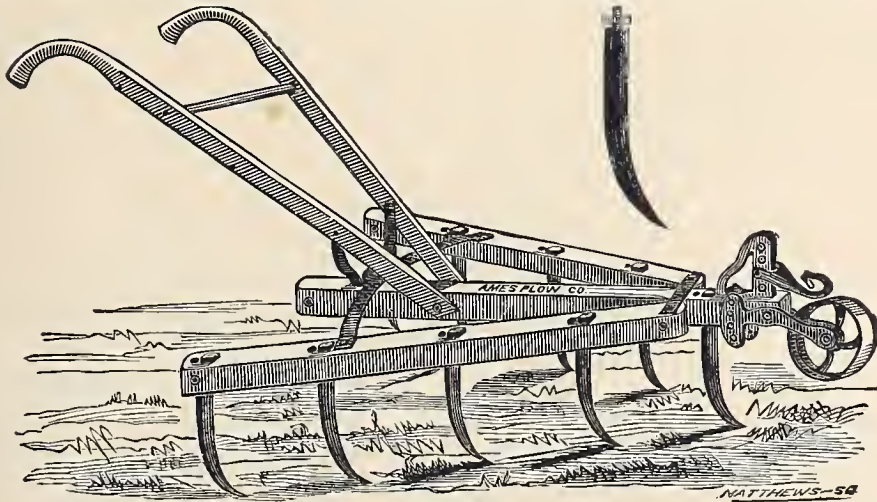
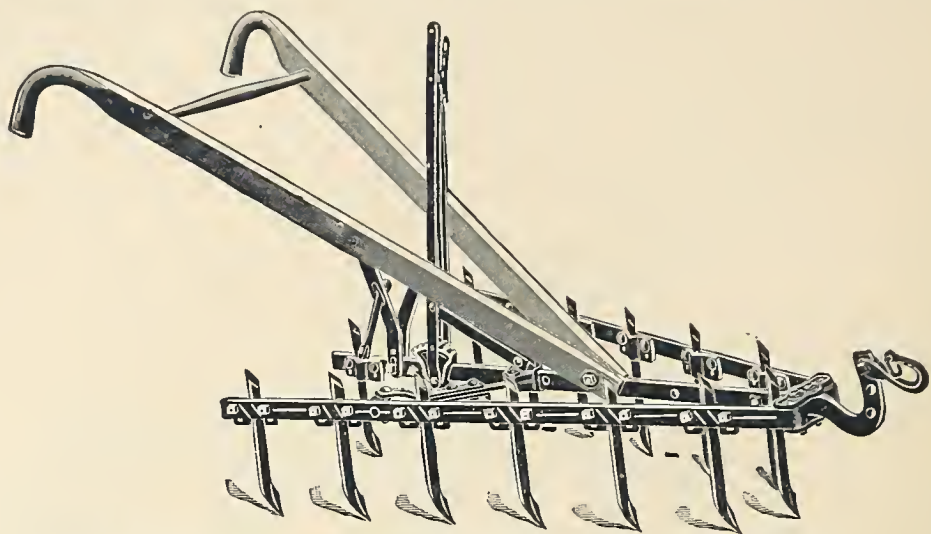

Fig. 356.—French's Patent Cultivator.
Fig. B 620. — Ames Steel Frame Harrow Cultivator.
*The Expanding Lever*, shown in Harrow Cultivator, *Fig. B 620*, can be attached to the Ames Horse Hoe and Cultivator. The advantages of this mode of expanding and contracting are evident as the operation can be performed in an instant, regulating to the exact width desired even while in motion.
*The French's Patent Cultivator*, represented by Fig. 356, is specially designed for market-gardens and may be run close to small plants just coming up, as turnips, carrots, onions, mangolds, or nursery stock, or tender plants newly set, as strawberries, asparagus and tobacco, without covering them with earth, as all wide-tooth
*The Ames Steel Frame Harrow Cultivator*, shown in *Fig. B 620*, is to all intents and purposes the French's Cultivator described at *Fig. 356*, in STEEL, but